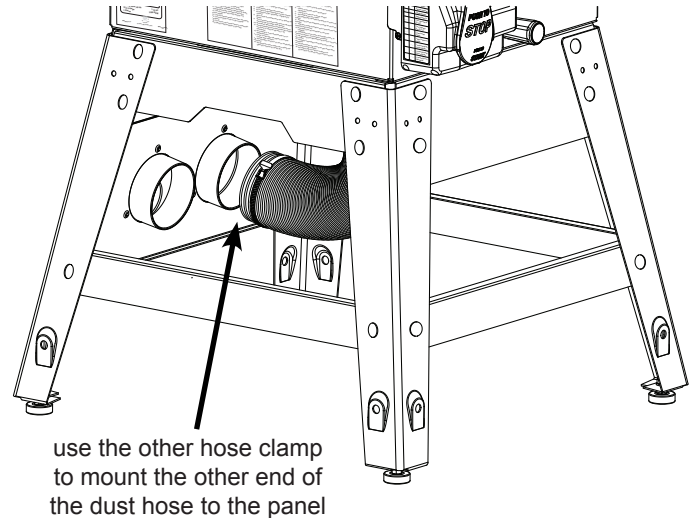

Fig. 4
- Place the other hose clamp over the opposite end of the dust hose and then slide the end of the dust hose over the backside of either the 4 inch dust port or the 2 1/2 inch dust port on the dust collection panel (see Fig. 4). If you will be using a dust collection system that uses a 4 inch hose, then connect the dust hose to the backside of the 4 inch port on the panel. If you will be using a portable vacuum that uses a 2 1/2 inch hose, then connect the dust hose to the backside of the 2 1/2 inch port on the panel. Tighten the thumb screw on the hose clamp to secure the dust hose to the panel.